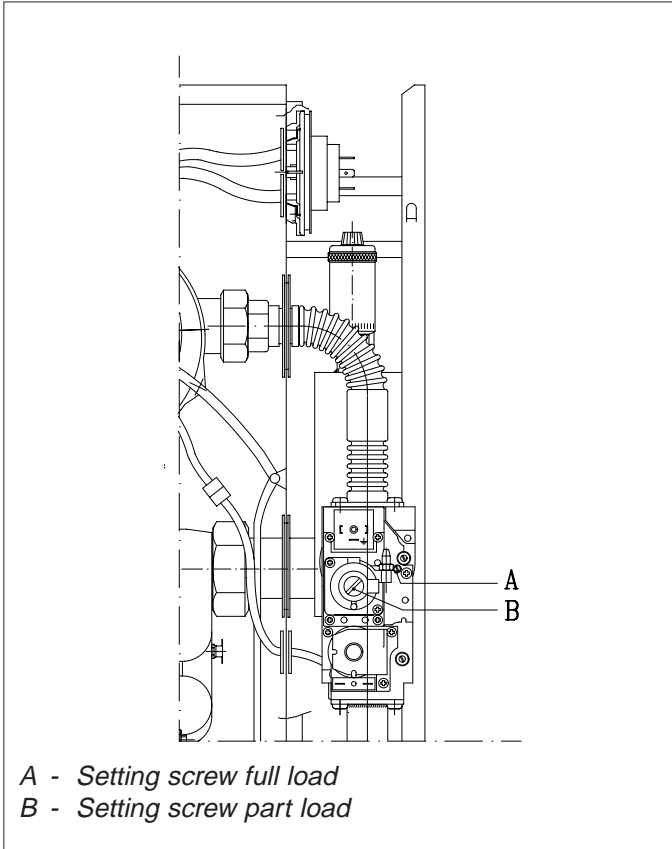

Fig. 21 Setting screws
- If necessary, correct the gas/air ratio using screw A on the gas combination block (see fig. 21). Check the flame via the inspection opening:
- 17e. Once the part-load speed is reached, compare the measured result with the table above (see 17c). If necessary, correct the gas to air ratio using screw B on the gas combination block (see fig. 21). Check via the inspection opening: